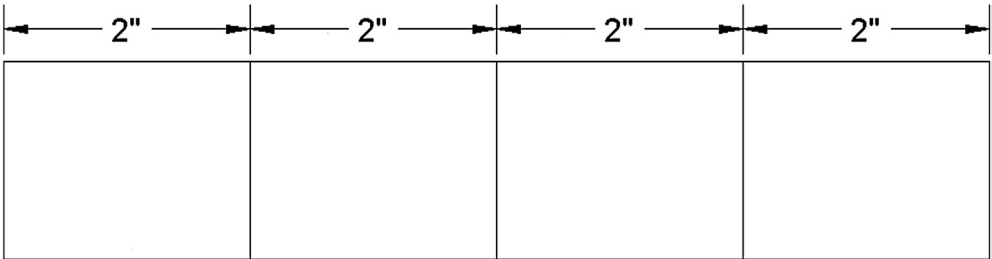

FIGURE 6.10
- Step 3.** You can continue this until you run out of objects to dimension; at that point, just press Esc. Your result is shown in Figure 6.10. Notice how all the values are neatly spaced in a row.